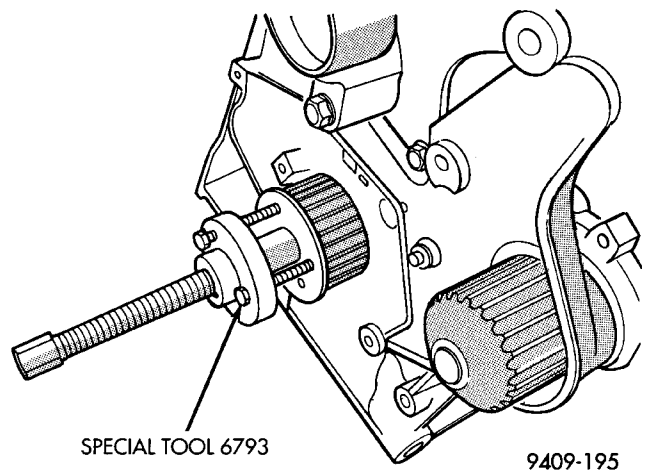

Fig. 73 Crankshaft Sprocket—Removal
- (2) Remove Timing Belt. Refer to Timing Belt System, in this section.
- (3) Remove Oil Pan. Refer to Oil Pan Removal in this section.
- (4) Remove Crankshaft Sprocket using Special Tool 6793 and insert C4685-C2 (Fig. 73).